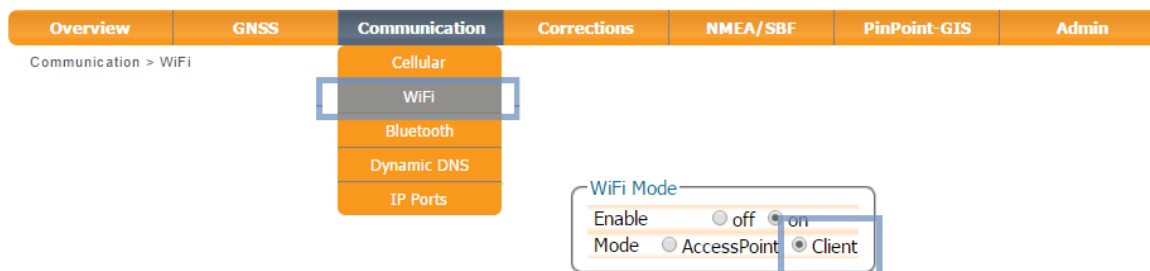

Figure 4-12: Click on 'Enable WiFi Client'
- On the 'Communication/WiFi' tab, select 'Client' in the Mode parameter as shown in Figure 4-12.